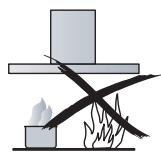

Fig. 2
- ∅ Do not leave lit gas burners exposed due to the risk of fire. (Fig. 2)